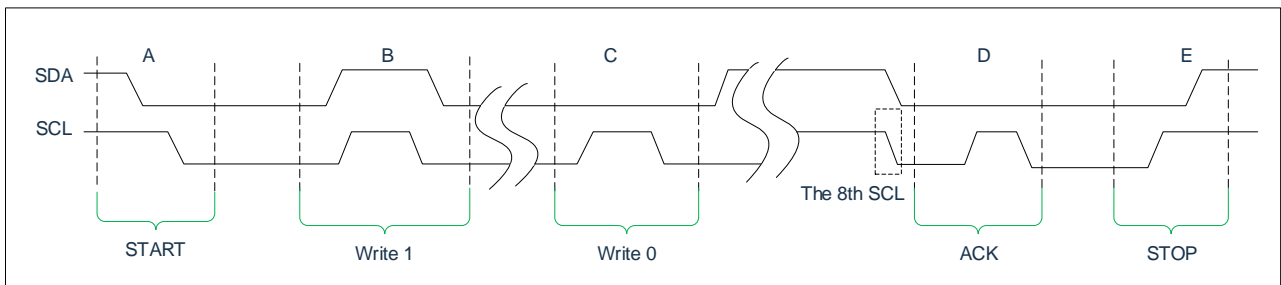

Figure 2-1: CMS1650 communicate protocol
- Start signal: a transition of SDA from a high to a low state while SCL is high. Such as (Figure 2-1) paragraph A.
- Stop signal: a transition of SDA from a low to a high state while SCL is high. Such as (Figure 2-1) paragraph E.
- Write 1: a transition of SCL from a low to a high state and then from a high to a low state while SDA is high. See (Figure 2-1) paragraph B.
- Write 0: a transition of SCL from a low to a high state and then from a high to a low state while SDA is low. See (Figure 2-1) paragraph C.